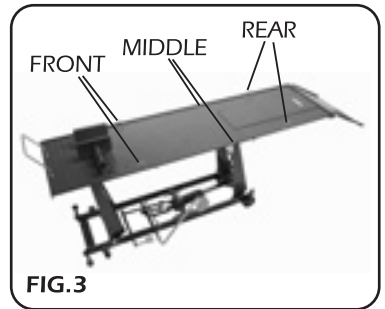

FIG. 3
5.2 TIE DOWN POINTS (Figs.3&4):